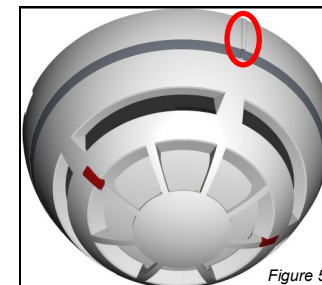

Figure 5
- 4) When the detector is firmly engaged, check the alignment of the raised reference marks on the detector and on the base (figure 5).